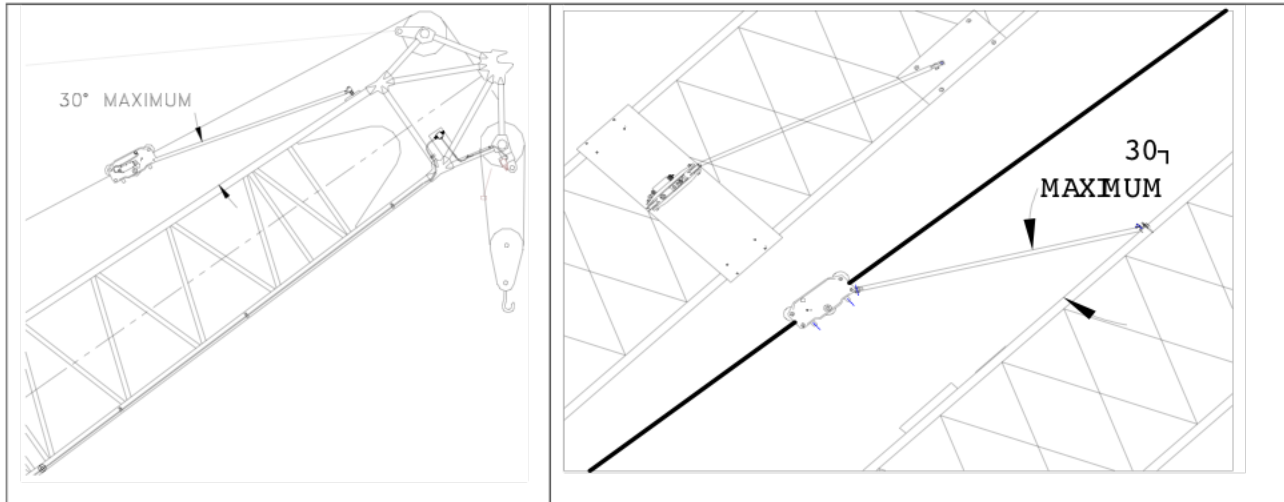

Figure 6. Lattice Boom Linerider Installation.
1. Select a location that the swing arm angle with respect to the boom will not exceed 30° (see Figure 6). The linerider should be located as close to the boom tip as possible.